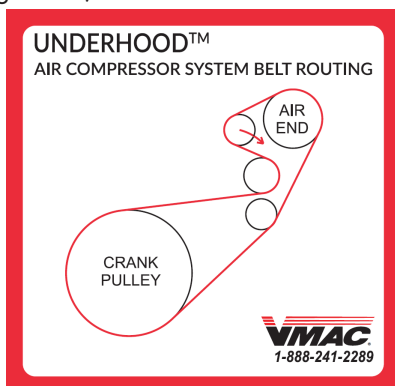

Figure 114 — Belt routing label
- ☐ Install the belt routing label in the engine compartment near the hood latch in a visible location (Figure 114).